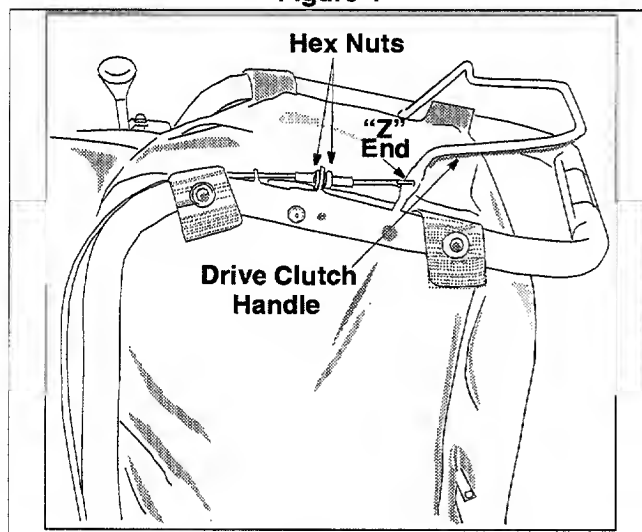

Figure 5
2. Holding the drive clutch handle up, hook the "Z" end of the cable into the drive clutch handle from the outside to the inside. See Figure 5. Pliers will aid in assembly.
Adjust the hex nuts at the cable bracket so there is no slack in the cable, but the cable is **NOT** tight. Do not overtighten the cable. See Figure 5.
2. If it does not, loosen both hex nuts at the cable bracket. See Figure 5. Turn bottom nut clockwise to loosen the cable.